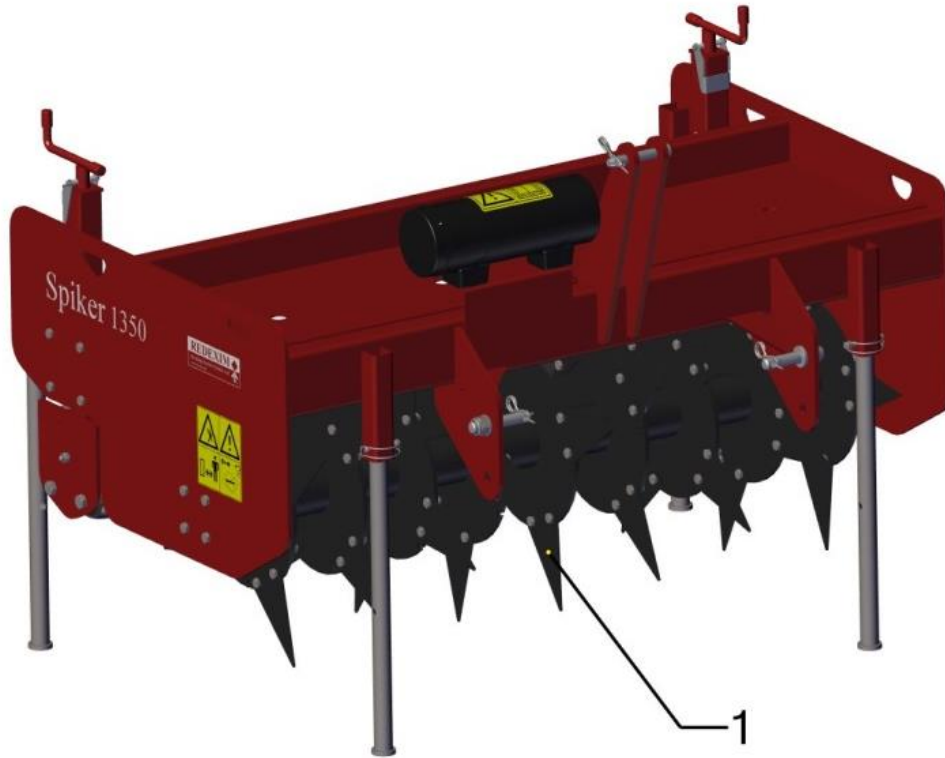

Figure 3
The knives (1) are mounted on all discs. See parts manual for correct numbers and assembly. (see **Figure 3**).